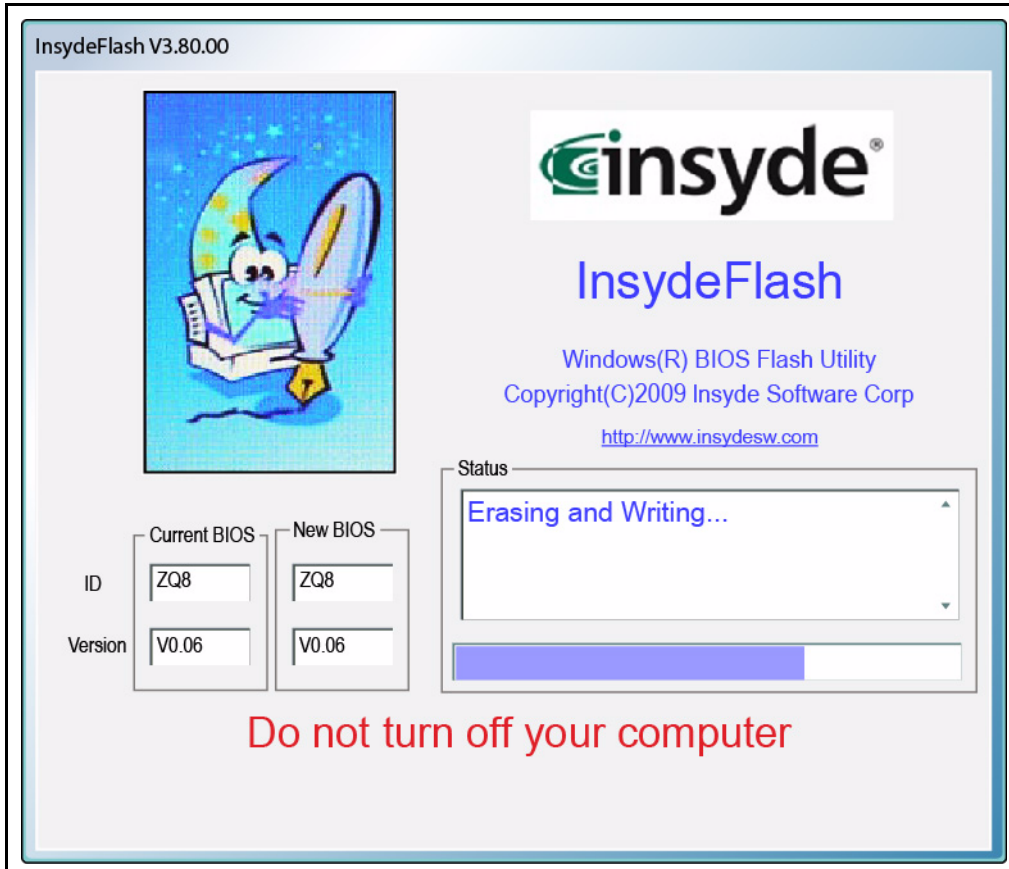

Figure 2-15. InsydeFlash
2. Click **OK** to begin update. A progress screen is shown. (Figure 2-15)